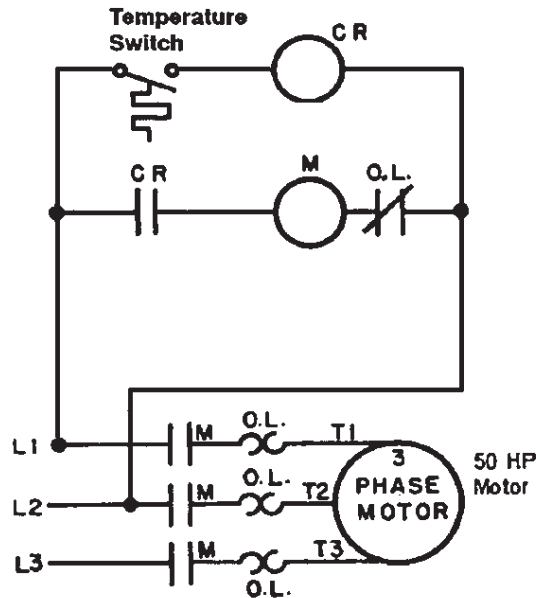
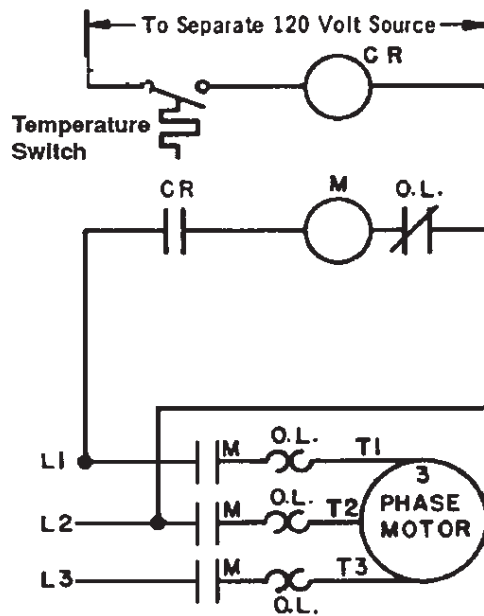

Figure 7-2 Current Amplification
Figure 7-3 Voltage Amplification
Figure 7-2 and Figure 7-3 (page 44) demonstrate how a relay amplifies contact capacity. Figure 7-2 represents a "current amplification". Relay (CR) and starter coil (M) voltages are the same, but the ampere rating of the temperature switch is too low to handle the current drawn by the starter coil (M). A relay is interposed between the temperature switch and starter coil. The current drawn by the relay coil (CR) is within the rating of the temperature switch, and the relay contact (CR) has a rating adequate for the current drawn by the starter coil.
Figure 7-3 represents a “voltage amplification”. A condition may exist in which the voltage rating of the temperature switch is too low to permit its direct use in a starter control circuit operating at some higher voltage. In this application, the coil of the interposing relay (CR) and the pilot device are wired to a low voltage source of power compatible with the rating of the pilot device. The relay contact (CR), with its higher voltage rating, is then used to control the operation of the starter.